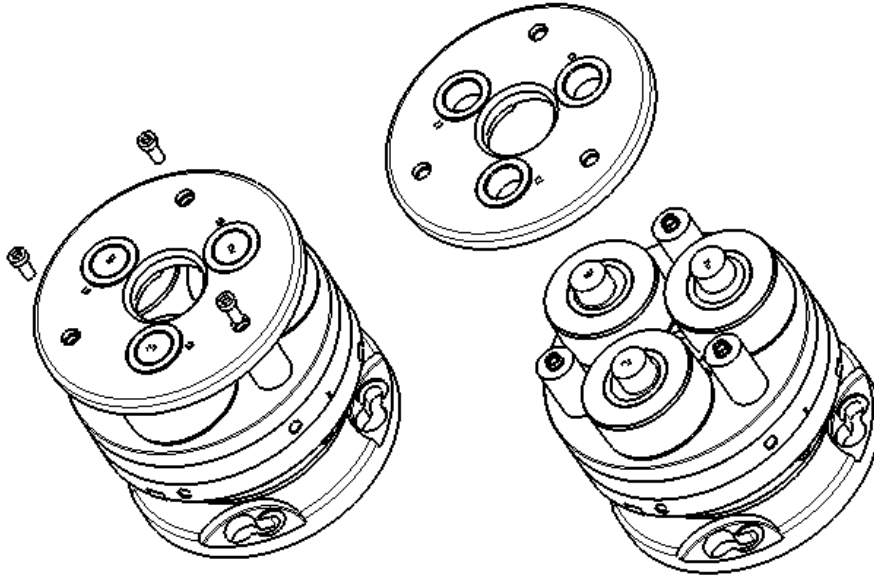

Figure 25: Removing the rolls 1/2
3. Remove the screws and remove the front plate (see figure 25).